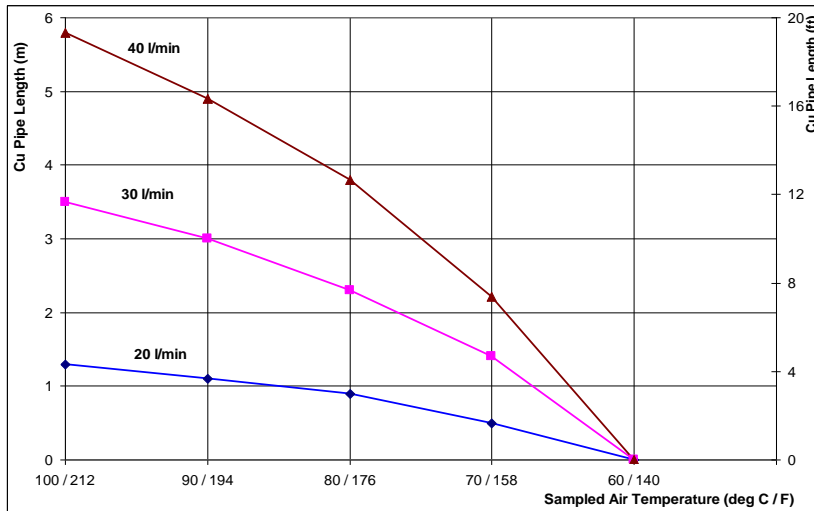

Figure 4: Estimated Copper pipe length “run” for sampled air cooling
- Required length of Copper pipe “run” to lower the sampled air temperature to 60°C (140°F): 3.5m (11.5ft) - Figure 4